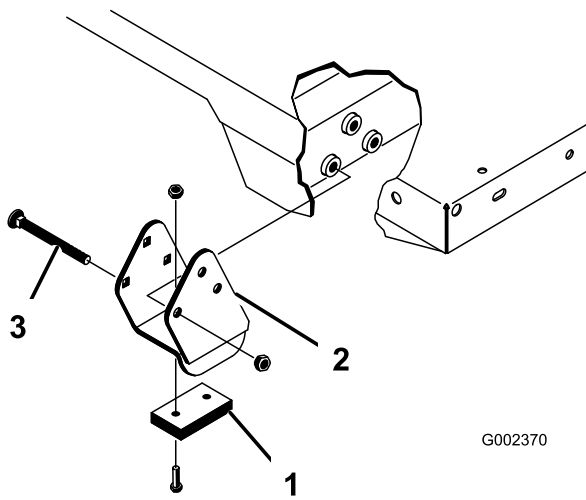

Figure 34
Note: Ensure that the spacer brackets and wear blocks (Figure 34) are installed with the carriage bolt heads positioned inside the machine.
2. Carefully set the bed onto the machine frame aligning the rear bed pivot-plate holes with the holes in the rear frame channel and install 2 clevis pins and lynch pins (Figure 34).
4. Insert the clevis pin from outside of the bed with the lynch pin toward the outside (Figure 34).